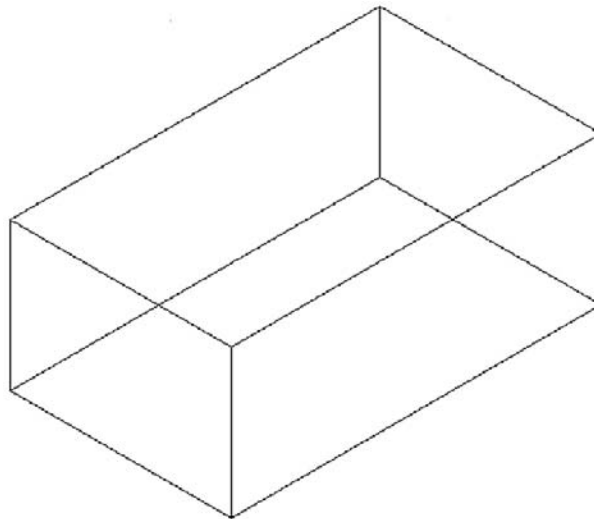

FIGURE 21.20
Step 3. You can actually now move your mouse up and down and create a thickness in real time, but it is more practical to type in a value, so go ahead and type in 4 for the thickness. You should see what is shown in Figure 21.20.